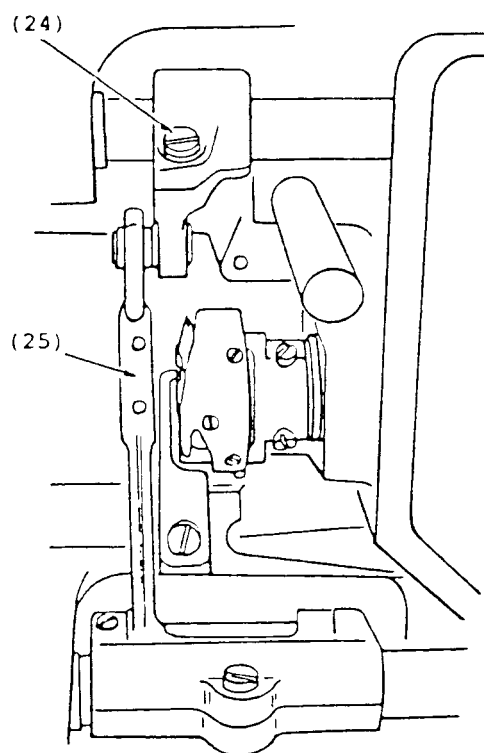

Fig. 15
To adjust, loosen the clamping screw (24), Fig. 15, and raise or lower the feed dog (which is fastened to the feed bar (25), Fig. 15) as required. Then securely tighten screw (24).